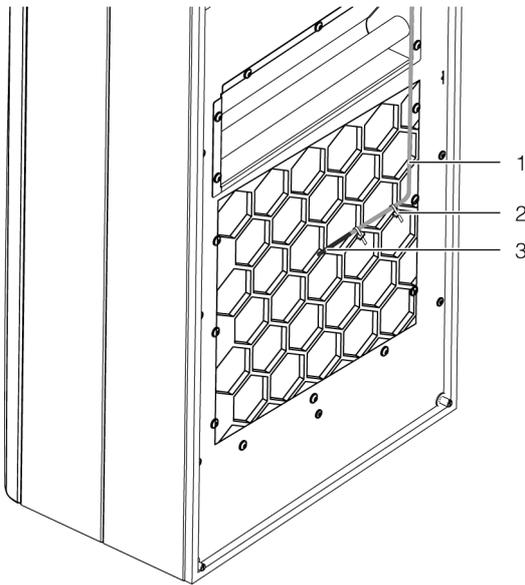

Fig. 35: Temperature sensor in front of cold air outlet (example illustration)
- Attach the temperature sensor in front of the cold air outlet from the cooling unit, in the centre (fig. 35).